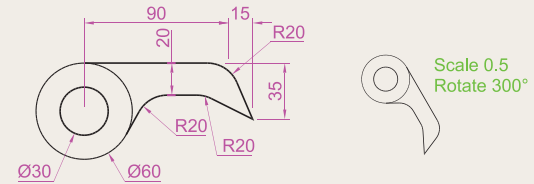

Fig. 5.54 Exercise 8
- Construct the dimensioned drawing of Fig. 5.54. With **Copy** copy the drawing. Then with **Scale** scale the drawing to a scale of **0.5**, followed by using **Rotate** to rotate the drawing through an angle of as shown. Finally, scale the original drawing to a scale of **2:1**.